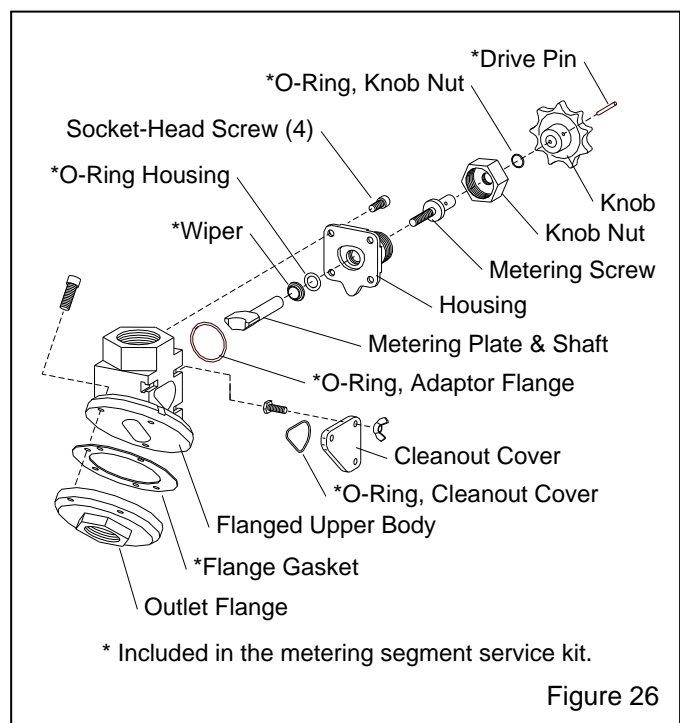

Figure 26
**6.6 Manual Quantum Metering Valve, Figure 26**
**6.6.14** Place a new O-ring and wiper seal in the housing, as shown in Figure 26. The small side of the wiper seal faces away from the O-ring. A generous amount of silicone-based lubricant eases installation.